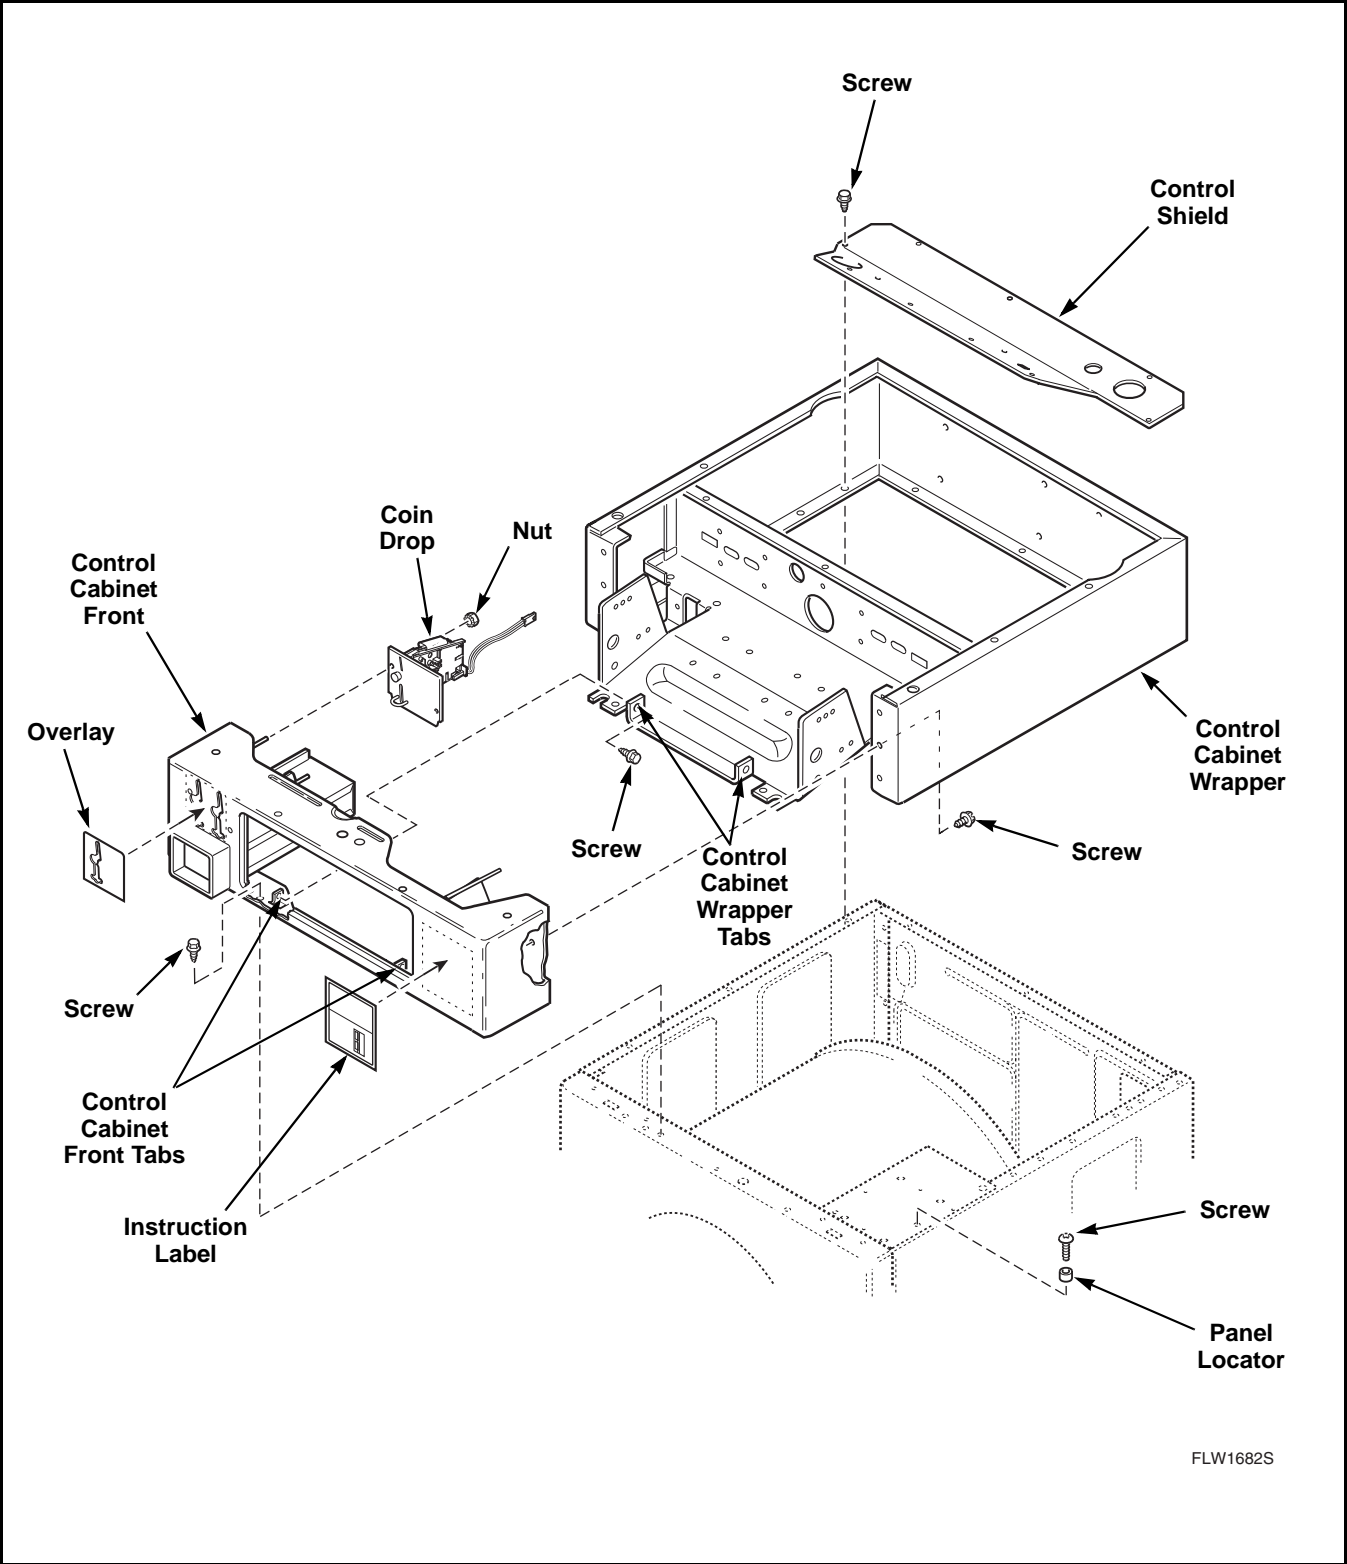

Figure 31
- f. Remove two screws holding bottom front flange of control cabinet front to top flange of washer front panel. Refer to *Figure 31*.
- g. Remove three screws (per side) holding control cabinet front to front flange of control cabinet wrapper. Refer to *Figure 31*.
- h. Remove two screws holding control cabinet wrapper tabs to control cabinet front tabs. Refer to *Figure 31*.
- i. Carefully pull control cabinet front straight out and away from control cabinet wrapper. Refer to *Figure 31*.